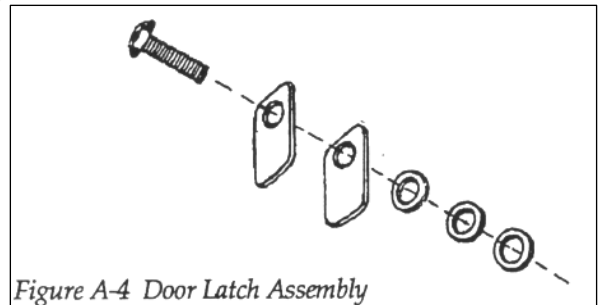

Figure A-4 Door Latch Assembly
- Attach the door latch tab (see **Figure A-4**).